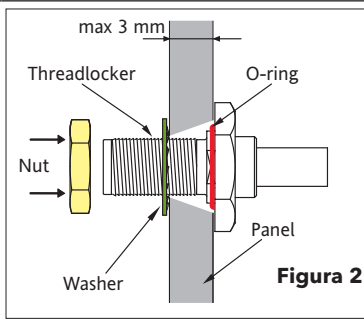

Figure 2
- Fit the seal ring (o-ring) to the end of the cable to be fitted to the panel (see Figure 2)
- Slip the washer over the end of cable pushed through the hole (see Figure 2).
- Rub a little thread locker onto the connector as shown in Figure 2.